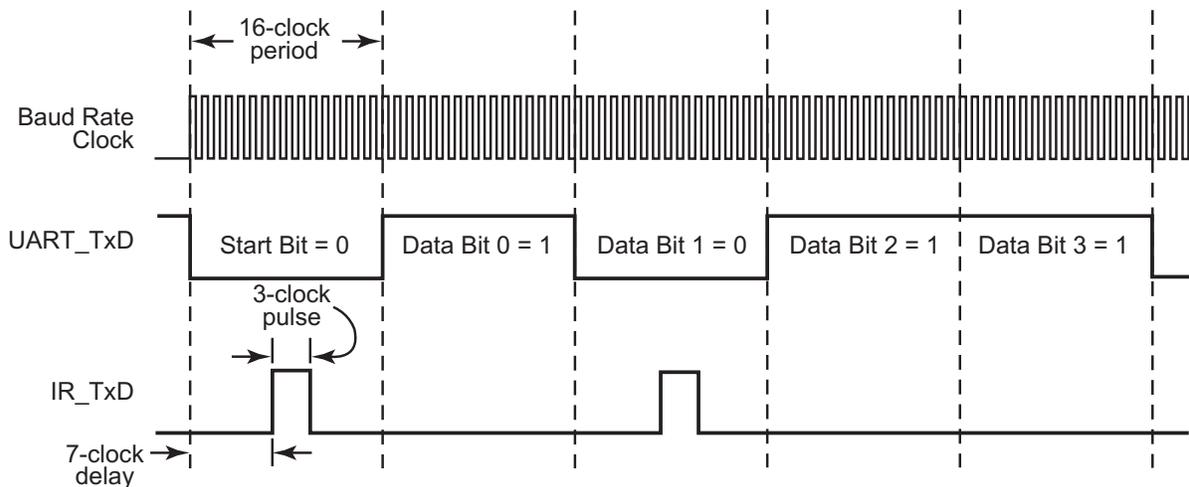

Figure 25. Infrared Data Transmission
The data to be transmitted via the IR transceiver is first sent to UART0. The UART transmit signal (TxD) and Baud Rate Clock are used by the infrared encoder/decoder to generate the modulation signal (IR_TxD) that drives the infrared transceiver. Each UART bit is 16-clocks wide. If the data to be transmitted is a logical 1 (High), the IR_TxD signal remains Low (0) for the full 16-clock period. If the data to be transmitted is a logical 0, a 3-clock High (1) pulse is output following a 7-clock Low (0) period. Following the 3-clock High pulse, a 6-clock Low pulse completes the full 16-clock data period. Data transmission is illustrated in Figure 25. During data transmission, the IR receive function should be disabled by clearing the IR_RXEN bit in the IR_CTL reg to 0. This prevents transmitter to receiver cross-talk.